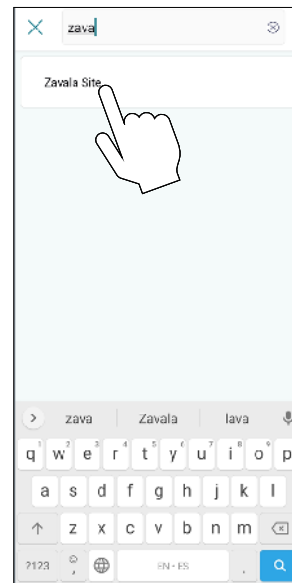

Figure 122. Choose Organization
4. "Choose organization" screen will be displayed and it will show all the available organizations. Navigate the sub Organization list or use the search tool to locate desired organization. See **Figure 122**.